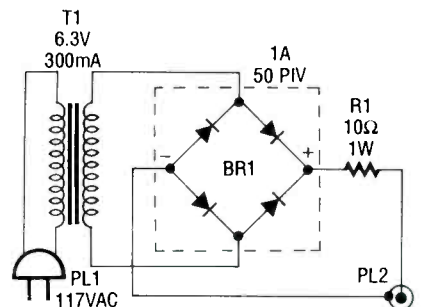

Fig. 3. Although rather simple in design, this circuit can be used to charge the gelled-electrolyte, lead-acid battery used to convert the flash unit.
**Battery Charger.** A charger for the battery can be made from a 6.3-volt filament transformer, a bridge rectifier (or 4 individual rectifier diodes with the proper rating), and a current-limiting resistor. A schematic diagram of the charging circuit used by the author is shown in Fig. 3.
Fig. 3. The composite video pattern includes a chroma-modulated staircase, a fast-risetime pulse, and a 2T burst signal. Note the fast risetime and negligible overshoot in the waveform through the baseband-switching device.
Figure 3 shows another test pattern, known as a *composite video* signal. That pattern includes a chroma-modulated staircase, a fast-risetime pulse, and a 2T burst signal. Note the fast risetime and negligible overshoot in the waveform through the baseband switching device.